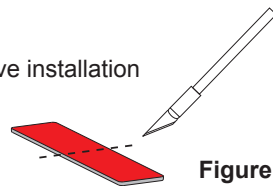
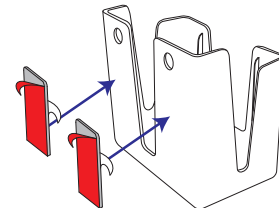

Figure 12
Figure 13
- 3b. For a more permanent installation, use the double-sided adhesive strip. Cut the strip as shown in Figure 12. Peel the backing from one side of the strip and place it on the back of the cradle (see Figure 13). Peel the backing from the other side of the strip and press the cradle onto the glass at the desired location.